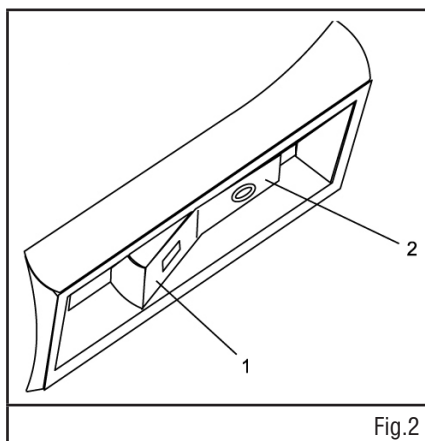

Fig.2
To turn the switch ON, push on the lower part of the ON / OFF switch (1) (see figure 2). To turn the switch OFF, push on the upper part of the ON / OFF switch (2).